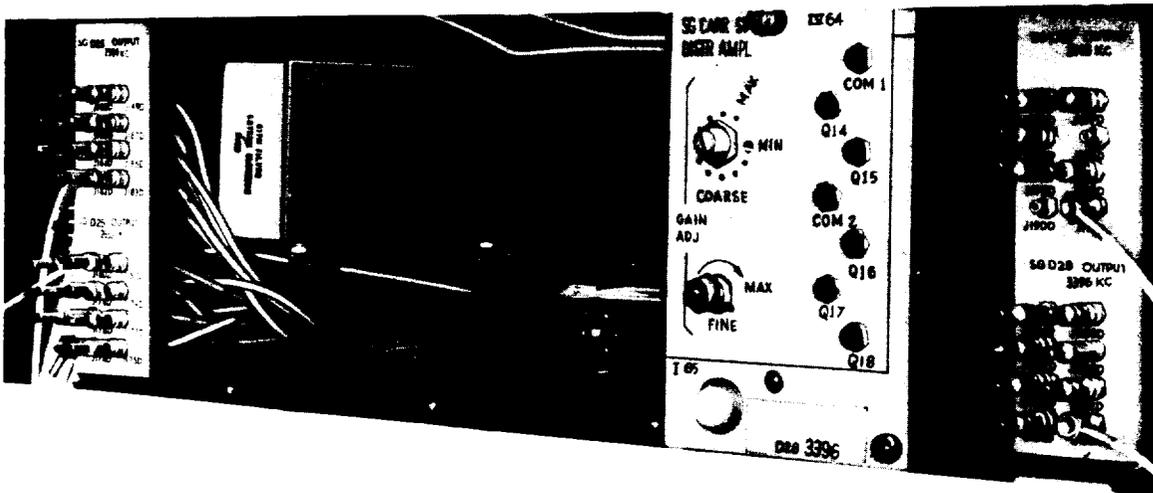

Fig. 7—Supergroup Carrier Supply J68857C—Location of 1040-KHZ Filter 617N (D Frame)
- 6 Remove the D25 and D26 distribution modules and inspect the 1040-kHz filter 617N to verify proper soldered connections at the input and output terminals (Fig. 7).